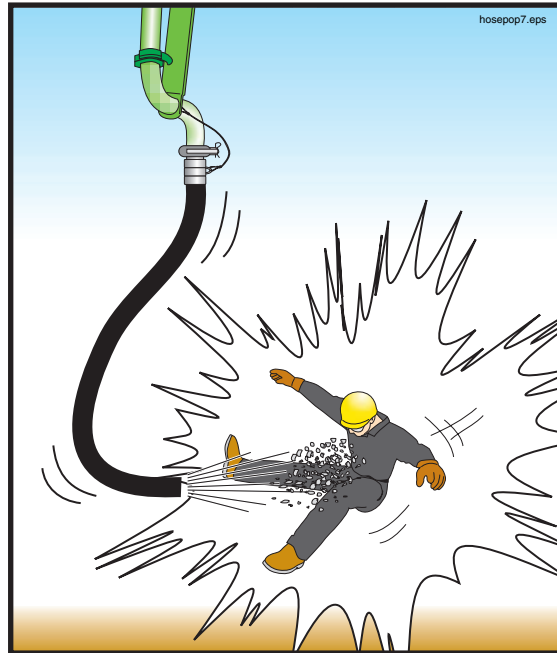

Figure 72
- 16.11** **⚠ WARNING** Do not let the concrete level in the hopper become low! If air is sucked into the material cylinders, the pump will compress the air. Compressed air always poses a hazard as it is expelled from the hopper or the delivery pipeline (Figure 72). If air is taken into the material cylinders, take the following steps to minimize the hazard:
a reasonable and prudent distance beyond the reach of the end hose or point of discharge (Figure 72).
⚠ WARNING When initially priming the delivery system, when restarting after moving, when restarting after adding or removing hoses, or whenever air has been introduced into the line, warn everyone to stay away from the discharge until concrete runs steadily and there is no movement of the delivery system. Personnel should stay back a reasonable and prudent distance beyond the reach of the end hose or point of discharge (Figure 72). Air will be in the line when first starting, when restarting after moving, when a blockage has been successfully removed by “rocking” the concrete, and after the line has been taken apart or opened for any reason.